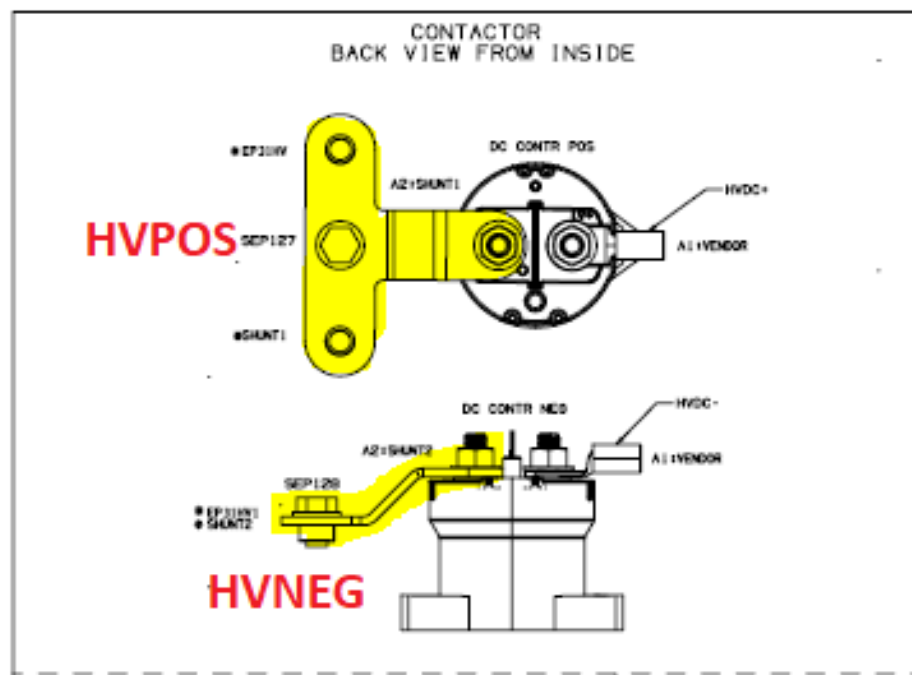

Figure 23: HVPOS & HVNEG Charge Receptacle Contactor Locations (Dual Side Charging)
70. You will be connecting the opposing end of your digital multimeter to one of the contactor terminals in the Curb Side Receptacle Box. If your SR's polarity listed in the table above as HVPOS, connect your digital multimeter to the bus side of the positive contactor located in the Curb Side Charge Receptacle Box. If your SR's polarity is listed as HVNEG, connect your digital multimeter to the bus side of the negative contactor located in the Curb Side Charge Receptacle Box. Refer to the highlighted and labeled connections in Figures 23, 24 and the appropriate wiring diagram for your SR.